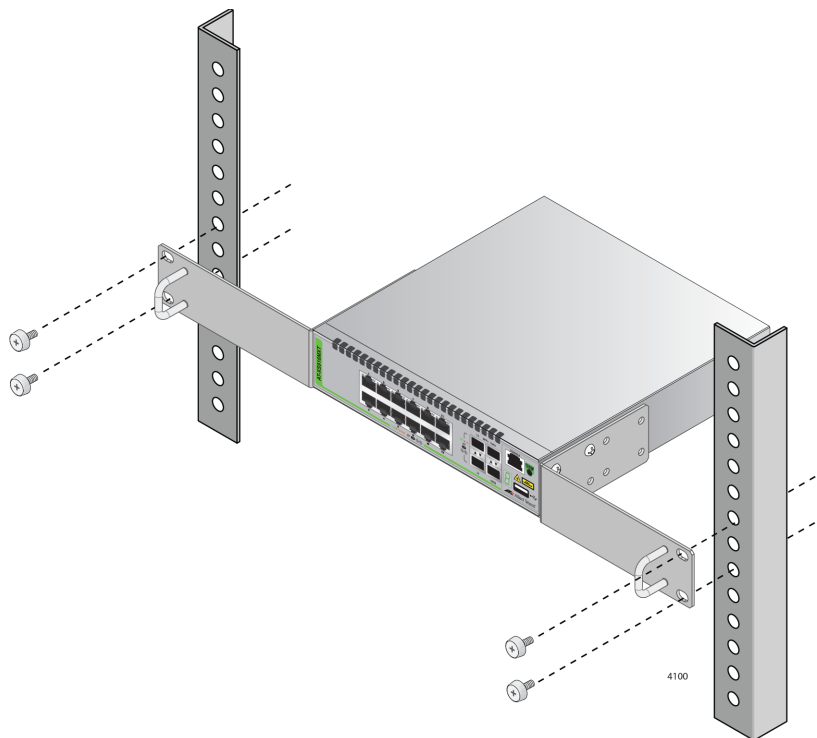

Figure 15. Mounting the Switch in an Equipment Rack
7. While another person holds the switch in the equipment rack, secure it with standard equipment rack screws as shown in Figure 15.